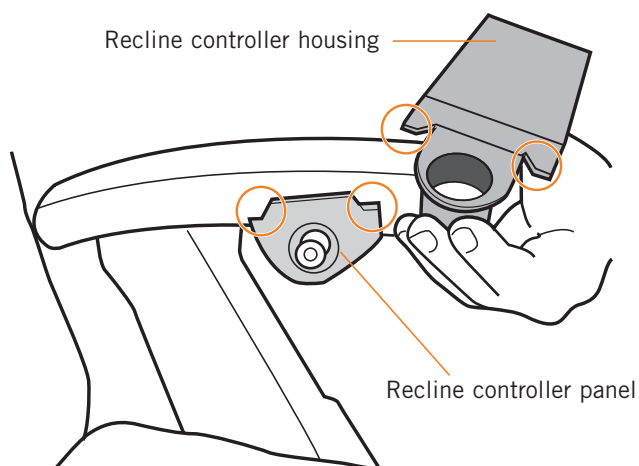

Fig.9
2. Place the housing into position on the left-hand armrest. Note the shape of the top of the recline controller panel and the matching shape of the recline controller housing (Fig.9).